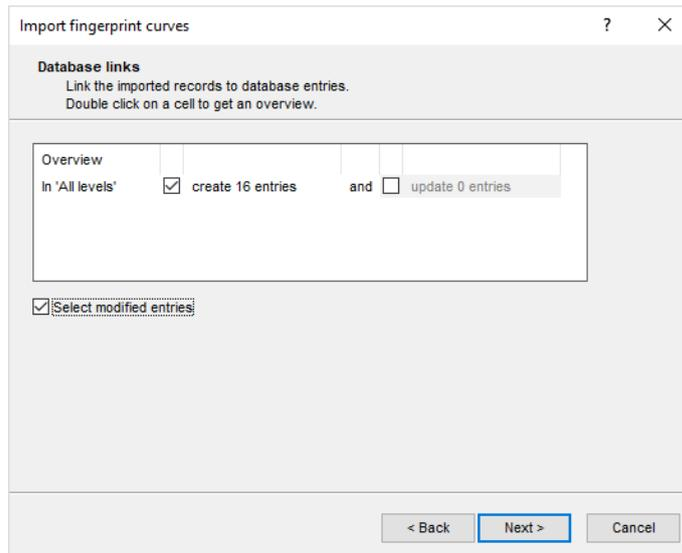

Figure 9: Database links.
22. Press **<Next>** to confirm the creation of new entries (see Figure 9).